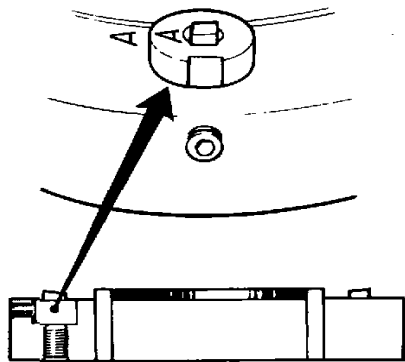

Fig. 46. Placing the cutter holder in the milling head
2. The cutter holders are marked with a letter (A, B, C or D) and the same letter is stamped on the cutter head where the cutter holder should be placed (Fig. 46).